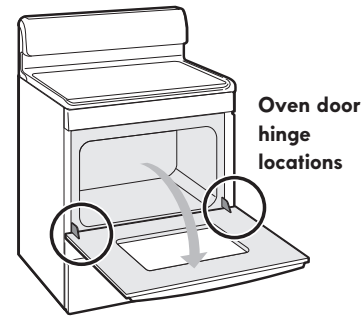

Figure 16: Oven hinge locations
1. Open oven door completely (horizontal with floor - Figure 16).
3. Fully open the oven door (horizontal with floor - Figure 16).